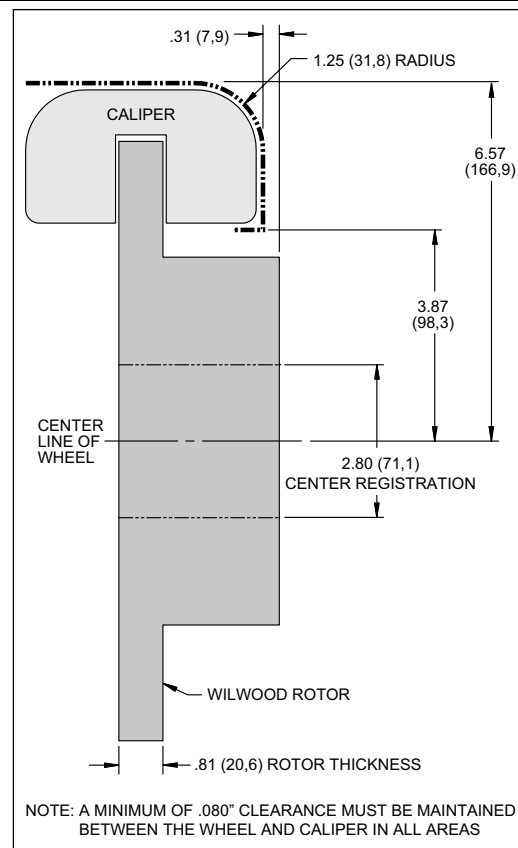

Figure 2. Wheel Clearance Diagram
- Review the Wheel Clearance Diagram (Figure 2, page 3) to verify that there is adequate clearance with the wheels you will be using with the installation.
• Verify your wheel clearance using Figure 2.